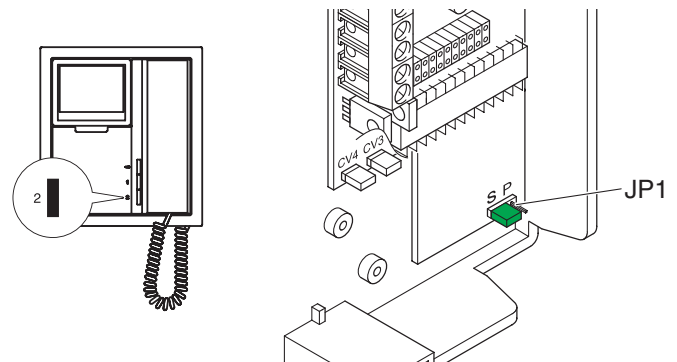

Fig. 1
1. On articles 4880, 4881 remove the two jumpers in the bottom right hand corner (Fig. 1).